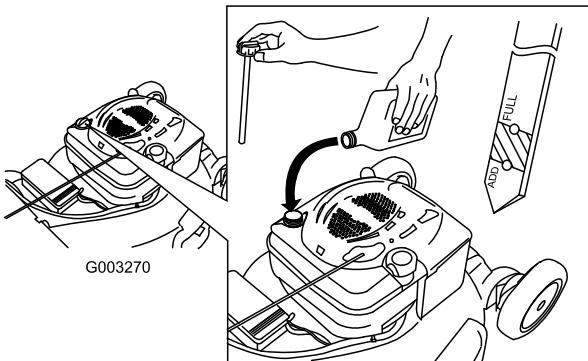

Figure 11
1. Remove the dipstick, wipe it clean, and fully install the dipstick (Figure 11).
2. Remove the dipstick and check the oil level (Figure 11). If the oil level is below the Add mark on the dipstick, slowly pour oil into the oil fill tube to raise the oil level to the Full mark on the dipstick. **Do not overfill.** (Max. fill: 20 oz. (0.59 l), type: SAE 30 detergent oil with an API service classification of SF, SG, SH, SJ, SL, or higher.)